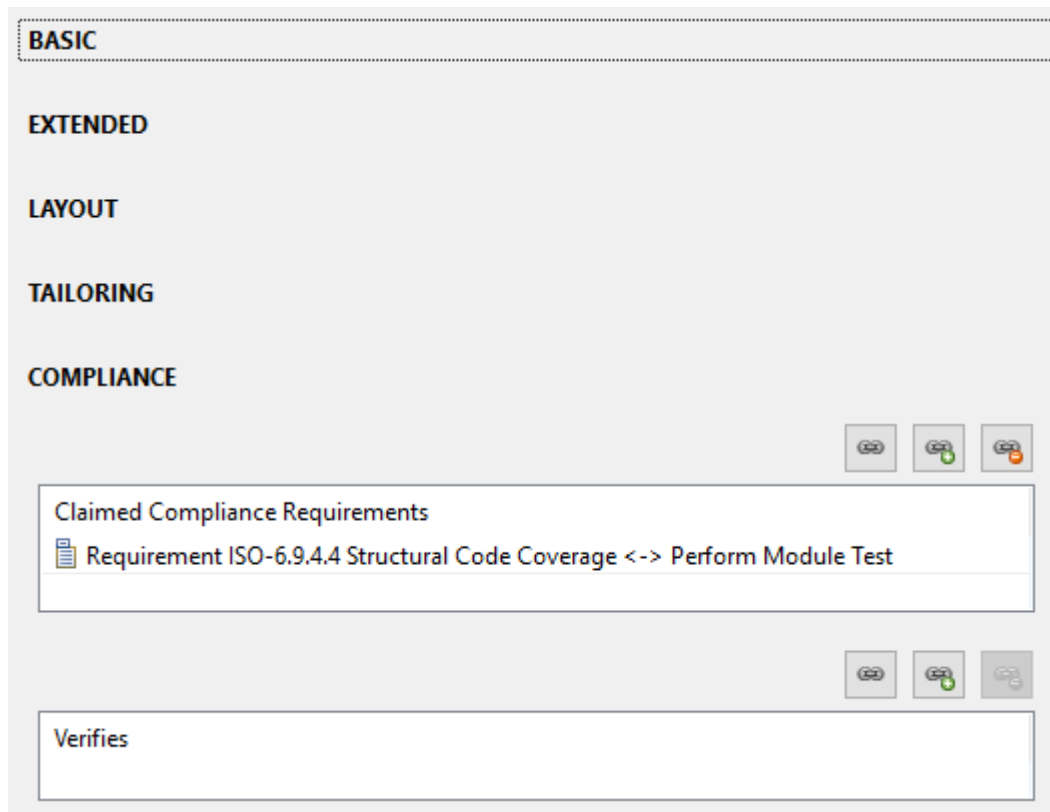

Figure 66: Claimed Compliance Requirements in ProcessModule
- In ProcessModules: Use the association "ClaimedComplianceRequirements" (COMPLIANCE part), see Figure 66